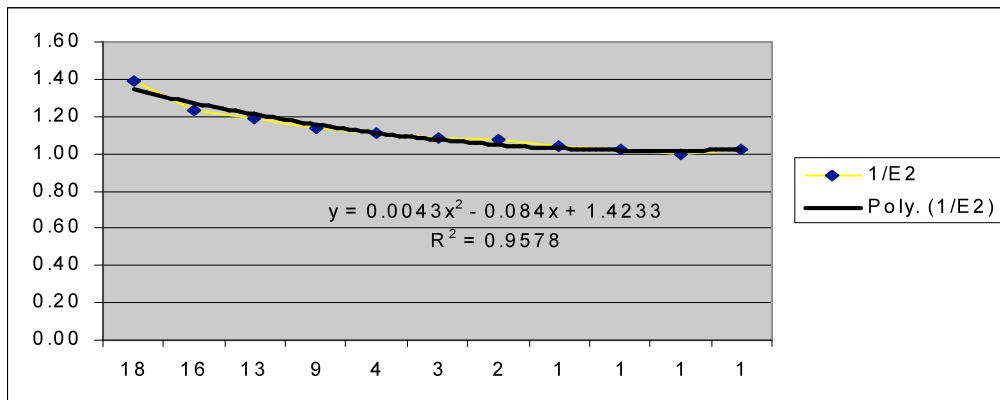

Figure 10 – Curve fit of $1/E2$ as a function of Element ratios .
Step 3 – Calculate and plot the ratio of Element 3/Element 4 as a function of Element 2 (Figure 10)